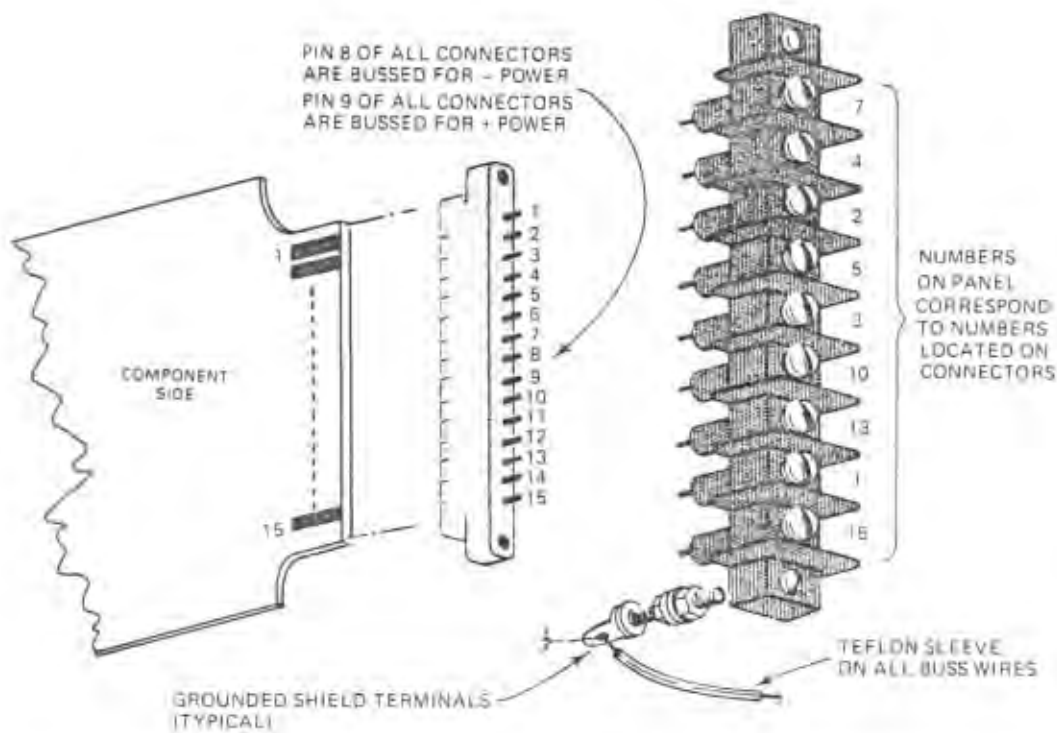

Figure 3-13. Plug-In Connectors and Terminal Strips Wiring and Identification
*Wiring Information for Plug-In Units.* Plug-in units and card rack electrical connections are made to terminals on the mating connector for the unit or the card rack terminal strips. Figure 3-13 illustrates the terminal strip connections and their
Options	Terminal Positions (See Figure 3-13)